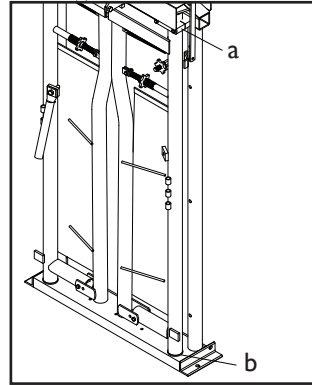

Figure 8: Headgate door bushings
2. The headgate has four UHMW bushings, one on the top of each door (a) and one on the bottom of each door (b) (Figure 8). These bushings are designed to have a long life with minimal wear, if the doors should start to become sticky, or hard to open and close, using a few drops of WD-40 (or similar lubricant) on each bushing will allow the doors to swing freely again.